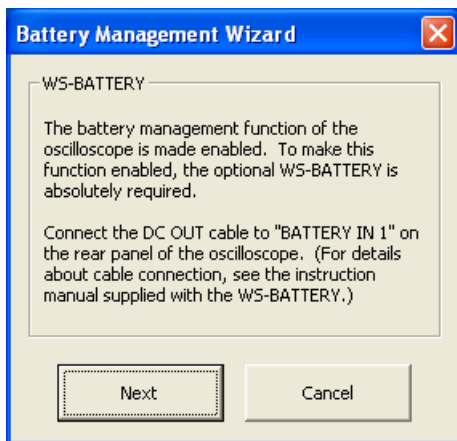

Figure 6a. Dialog Box that Appears when Using the Battery Management Function for the First Time.
8. "Battery Management Wizard" is then started up. Any of the dialog boxes shown in Figures 6a to 6c may appear.
- When the dialog box shown in Figure 6a appears, click [Next] and go to step 9.